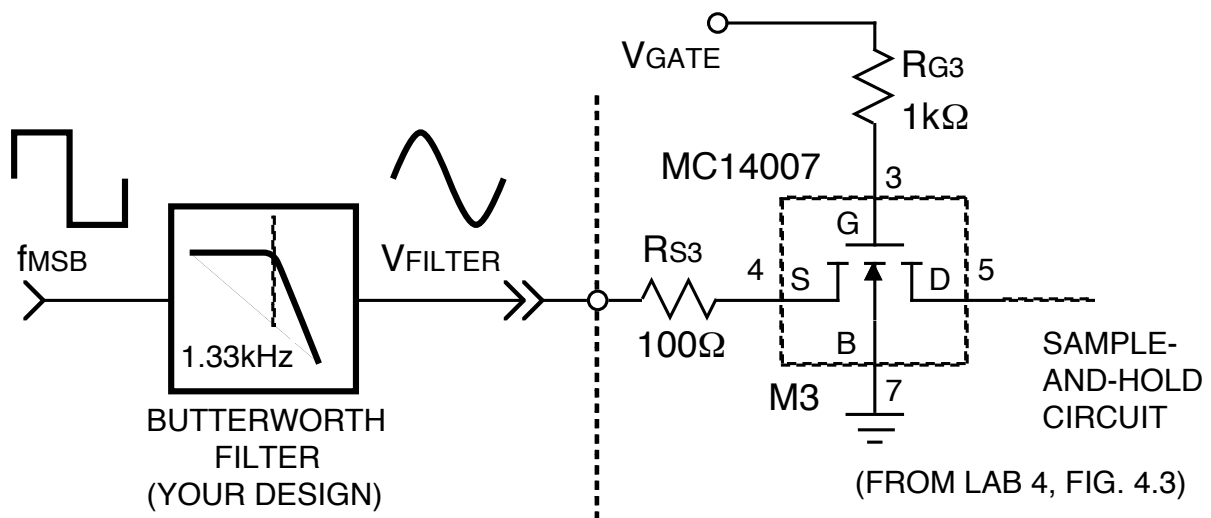

Figure 5.4
- 4.1 Connect the Butterworth filter output V_{FILTER} to the sample-and-hold input as shown in Figure 5.4.